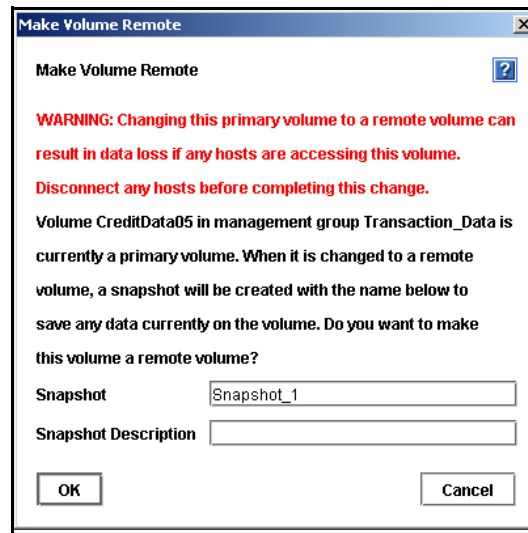

Figure 251. Creating a Snapshot Before Making a Primary Volume into a Remote Volume
4. Click OK. The Make Volume Remote window opens, shown in Figure 251.